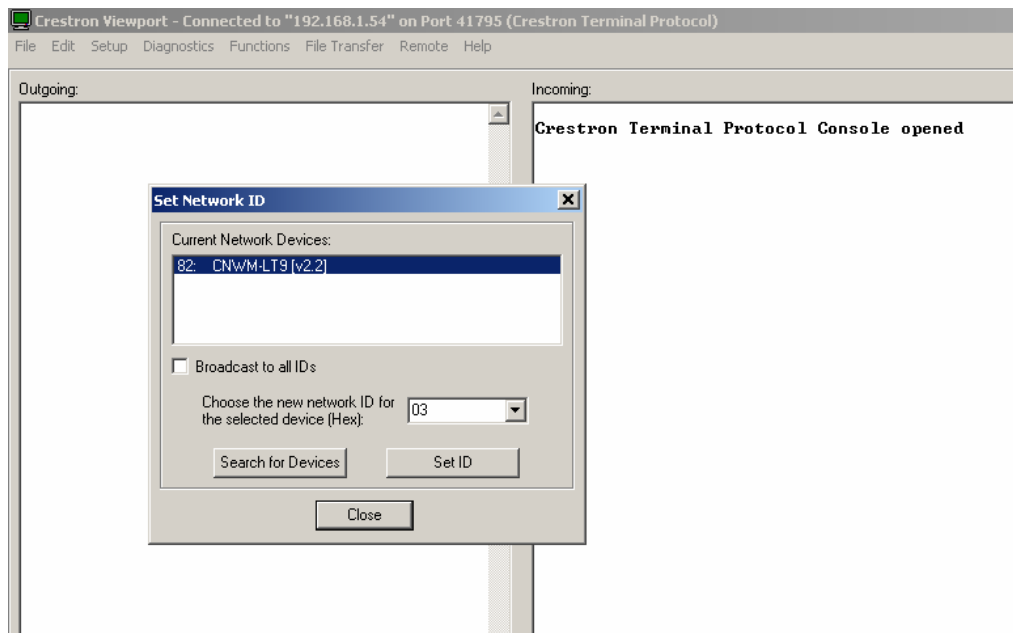

Figure 5: Set Network ID (viewport)
4. In the "Set Network ID" window, select the CNMW-LT9 from the *current network devices* text window (Figure 5).